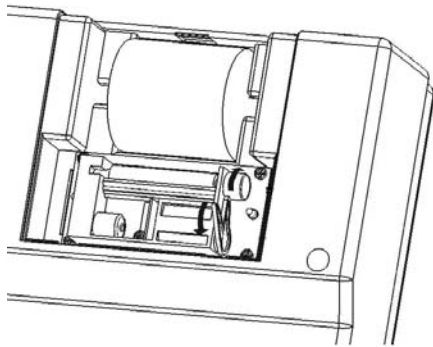
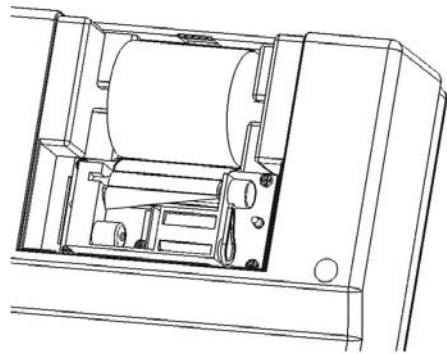

Figure 3
Figure 4
- b) Pull the paper rod and remove the remaining paper if there is any. Mount the printer paper in it and reset the rod (see figure 3 and figure 4).